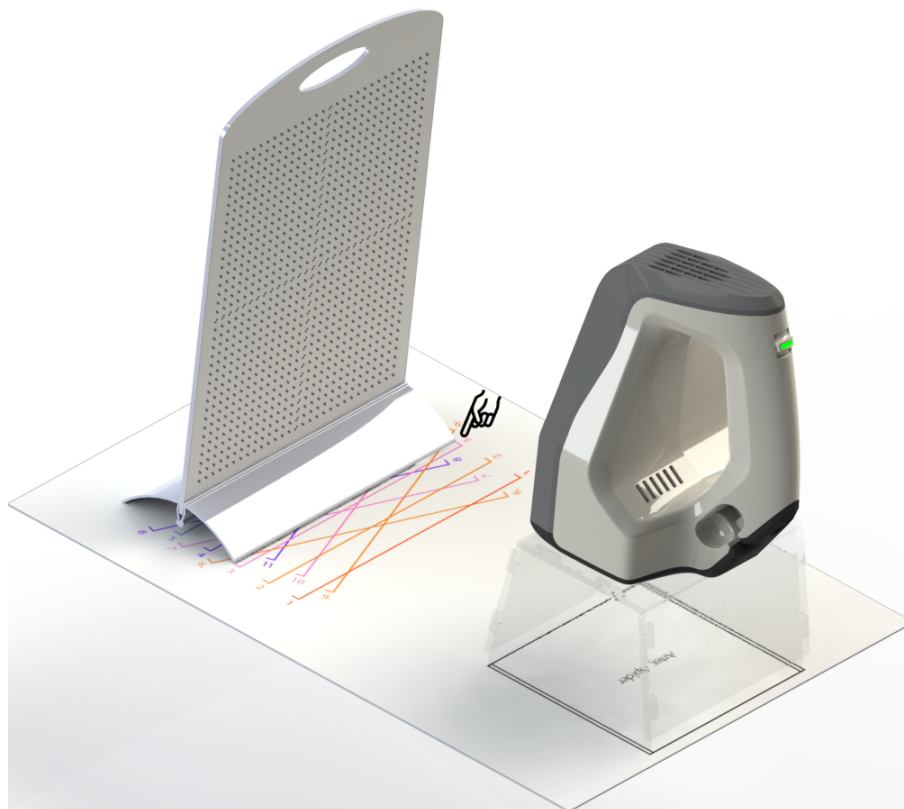

Figure 201: Calibration rig, positioning sheet and scanner stand with Artec Spider.
4. Set the calibration rig on the positioning sheet, turning its marker side towards the scanner as Figure 201 shows.